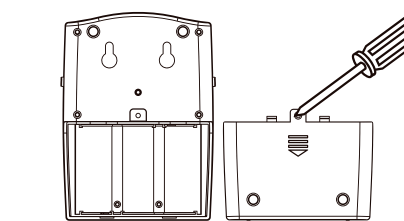

Fig.4
- Remove the screw from the back of the receiver cover and open the panel. (Fig.4)